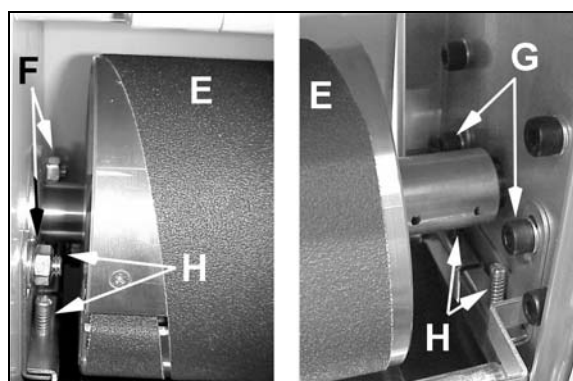

Figure 20
1. Remove the *abrasive strip* (E, Fig. 20) from the drum.
2. Loosen the two bearing *hex nuts* (F, Fig. 20) on the outboard side of the drum and two *cap screws* on the inboard side (G, Fig. 20).
You can also adjust the spring-loaded screws (H, Fig. 20), found on the pressure roller brackets, to increase or decrease roller pressure. If you are getting snipe marks at the leading end of the board adjust the outfeed roller pressure. If the snipe marks occur on the trailing end of the board, adjust the infeed roller pressure.